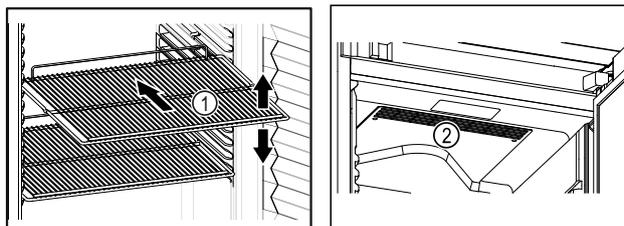

Fig. 67
- Ventilation slots Fig. 67 (2) for recirculation fan in the interior must be kept clear.